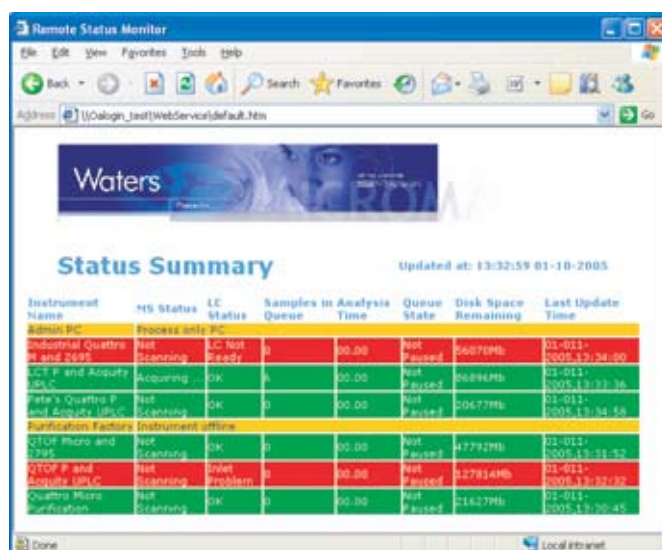

Figure 5. Remote Status Monitor.
- **Remote Status Monitor** (Figure 5) – Enables any user to monitor the status of Acquisition PCs and their batch queues from a single PC